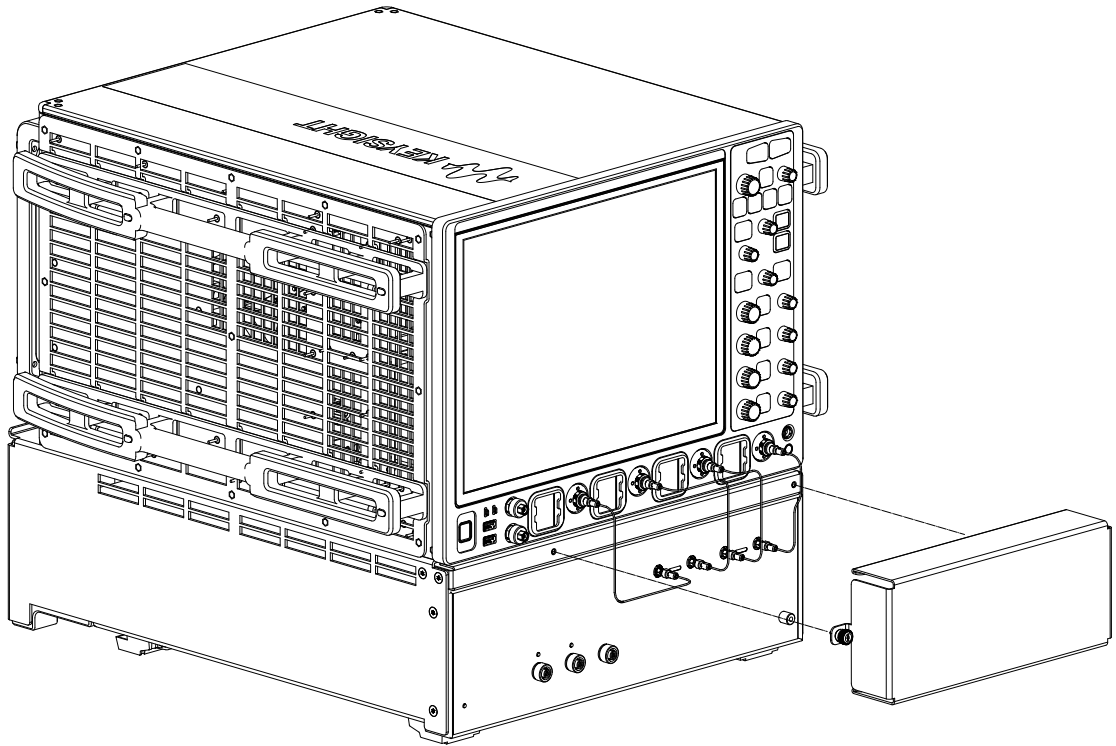

Figure 5 Finalizing the system
- 2 Starting from the left, very carefully attach the semi-rigid cables as shown in Figure 5 on page -27. Tighten with the supplied torque wrench.
- 3 To protect the semi-rigid cables from unintended impact, mount the protective cover as shown in Figure 5 on page -27.